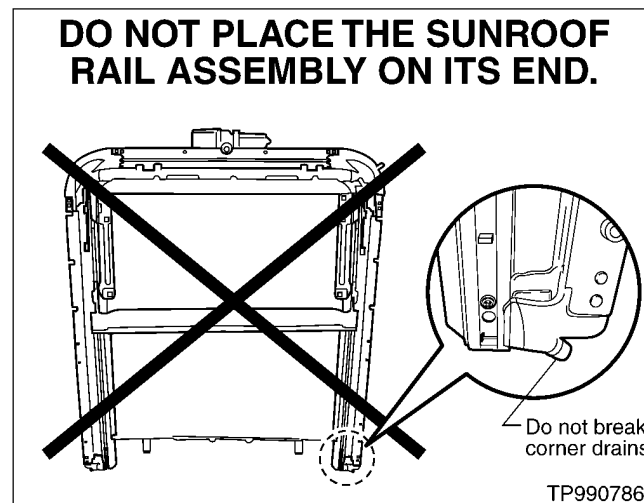

Figure 3
- Do not place the sunroof rail assembly on its end as damage to the corner drains may occur (see Figure 3).